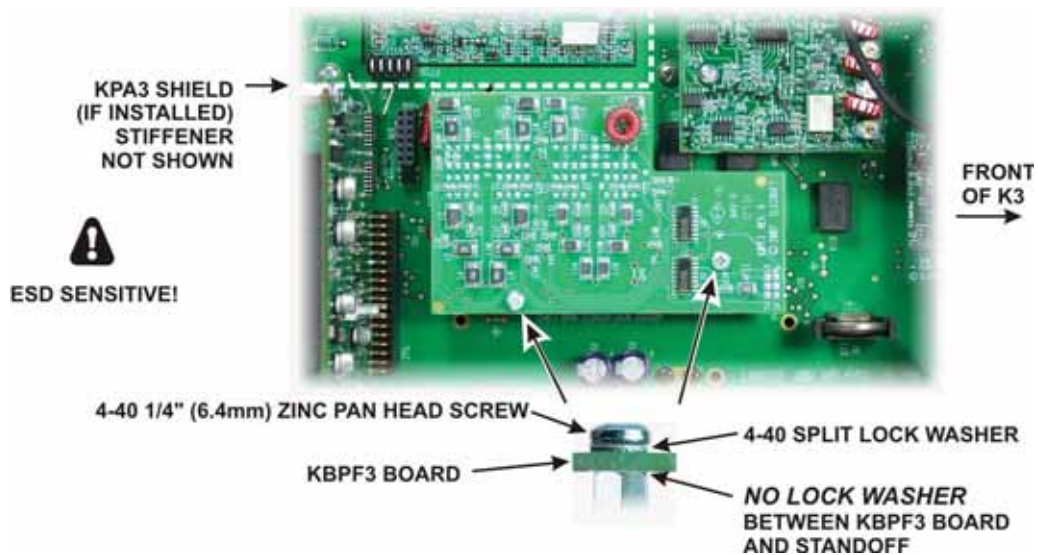

Figure 87. Installing the KBPF3 Option Board.
□ Install the board on the standoffs you installed earlier as shown in Figure 87. The screws and lock washers needed are supplied with your KBPF3 Option kit. There are three connectors on the bottom of the KBPF3 board that must be properly mated to P44A, P44C and P44E on the RF board. Even though the connectors are hard to see if the KPA3 shield is installed, they can be aligned as follows: